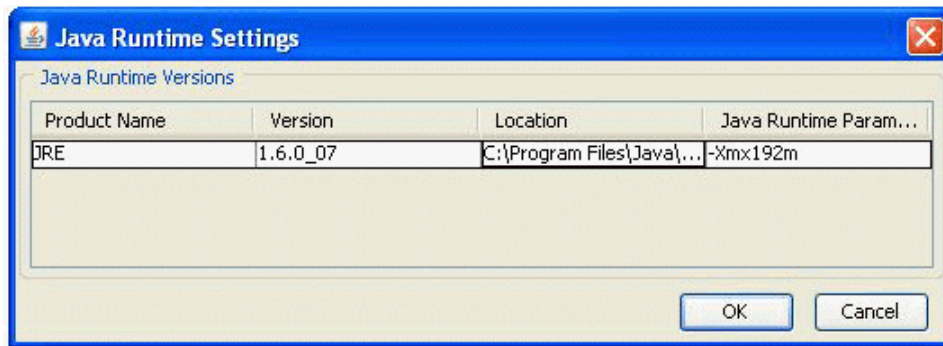

Figure 7-2: Java Runtime Settings Dialog Box
4. Click View in the Java Applet Runtime Settings section. The Java Runtime Settings dialog box appears, as shown in Figure 7-2.